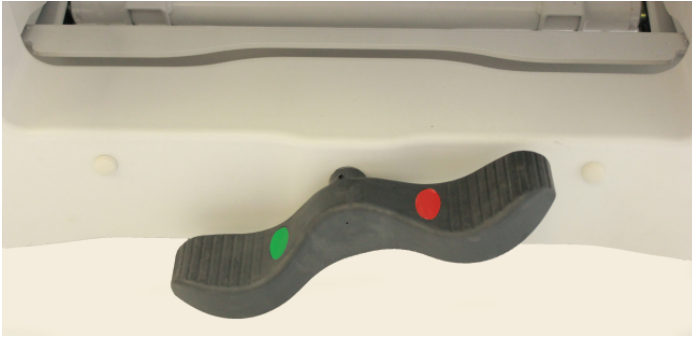

Figure 8 – Applying steer lock
2. To apply the steer caster, depress the green side of the pedal (Figure 8).